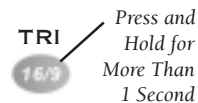

FIGURE 8
2. Press and hold the **TRI-16/9** key for more than one second. (Figure 8)